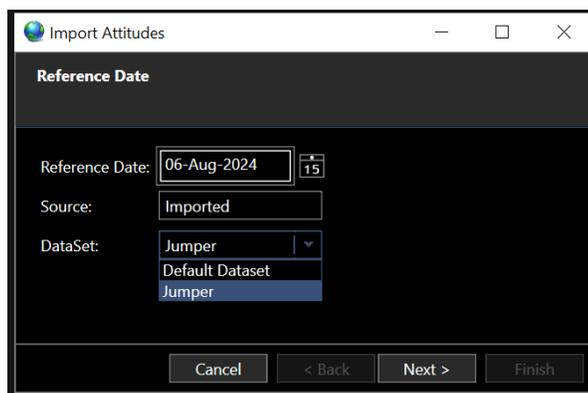

FIGURE 36 IMPORT ATTITUDES – REFERENCE DATE PAGE
3. Select attitude file(s) to import. This will open the Import Attitudes wizard, see Figure 36.